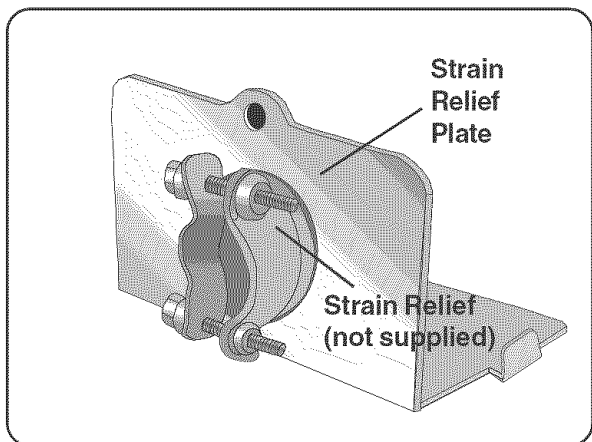

Figure 28
**NOTE:** Orient the strain relief as shown in **Figure 28**.